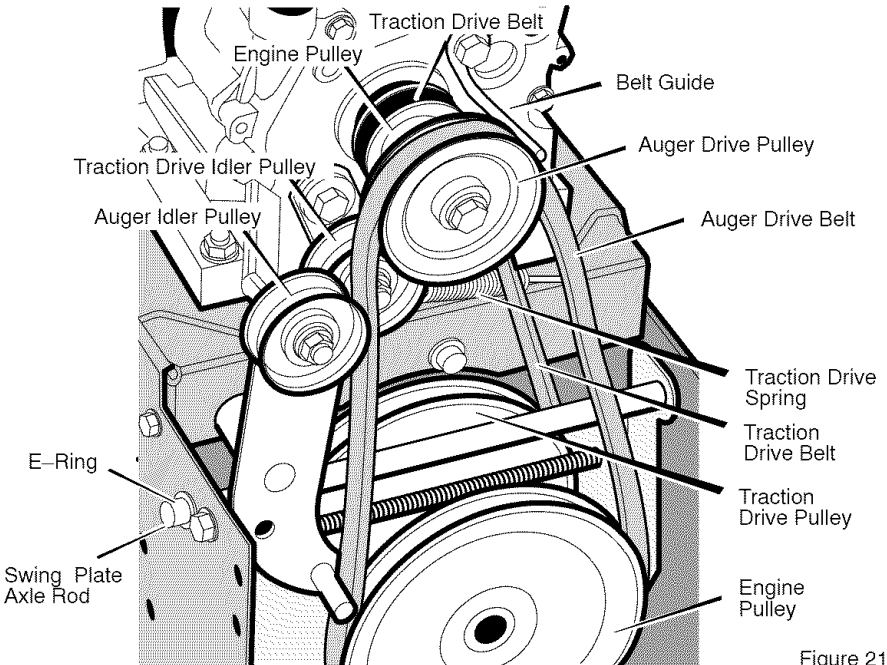

Figure 21
3. Loosen nut on auger idler pulley and move auger idler pulley towards belt about 1/8 inch (3 mm) (see Figure 21).
5. Loosen the **belt guide**. Pull the **belt guide** away from the **auger drive pulley** (see Figure 21).
9. Remove the old **auger drive belt** from the **auger drive pulley**. Replace the **auger drive belt** with an original factory replacement belt available from an authorized service center (see Figure 21).
3. Remove the **e-ring** from one end of the **swing plate axle rod**. Remove the **swing plate axle rod** to allow the swing plate to pivot forward (see Figure 21).